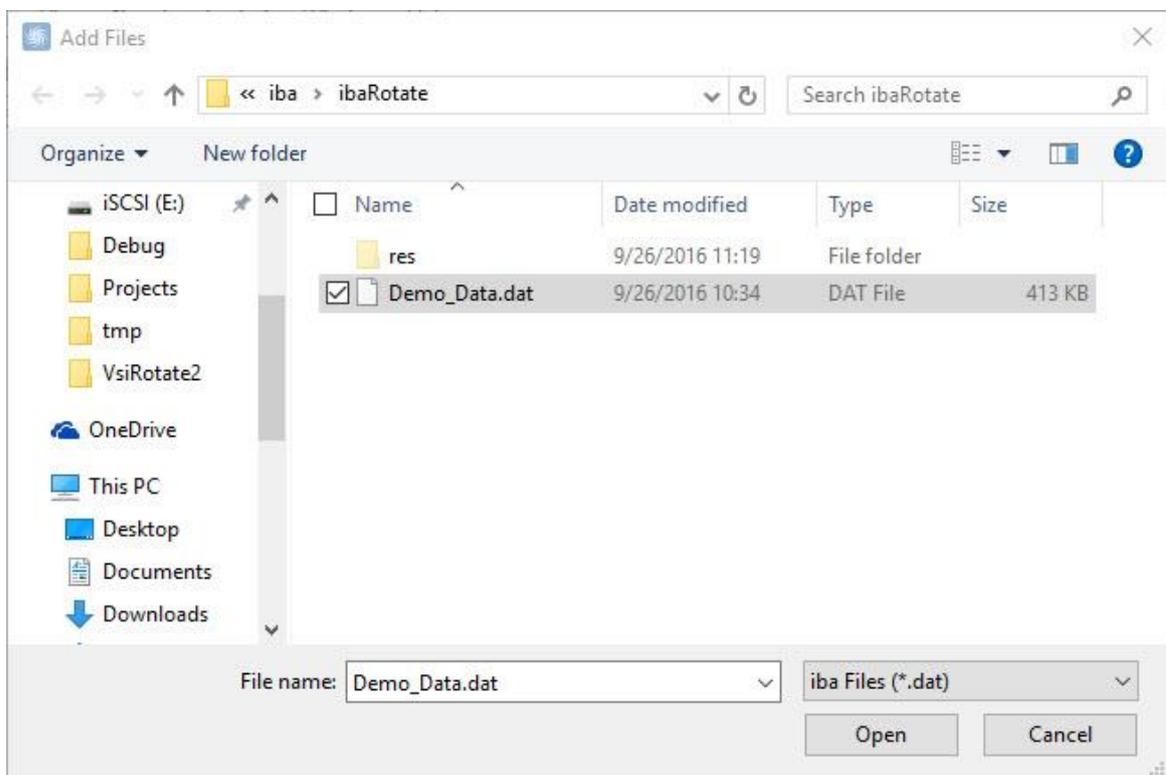

Figure 6: Add Files Dialog Box
1. From the “Signals” menu, select “Add Files”. A dialog window, shown in Figure 6, will appear.